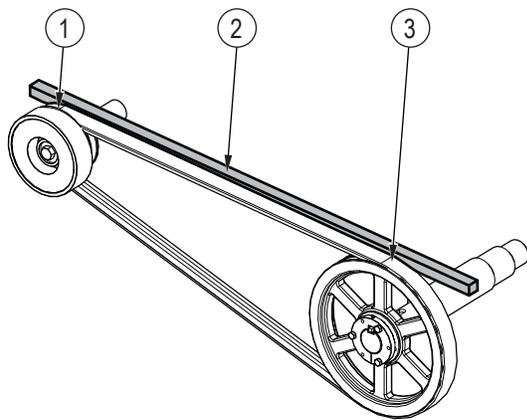

Figure 29—Check the drive belt alignment
1. Align a laser beam or straight edge (alignment tool) with the back edge of the rotor sheave and the engine clutch flywheel. See *Figure 29 on page 53*.